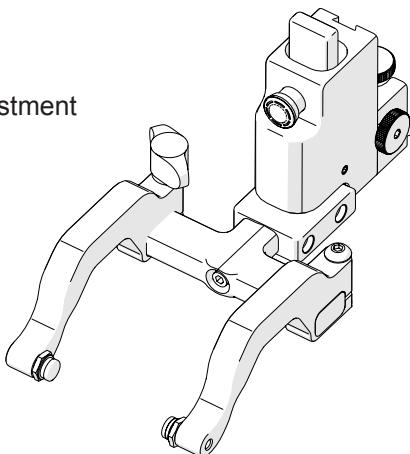

**Fig. 133 - Screw into threaded hole**
**17.** Screw the yoke to the probe holder (Fig. 133).